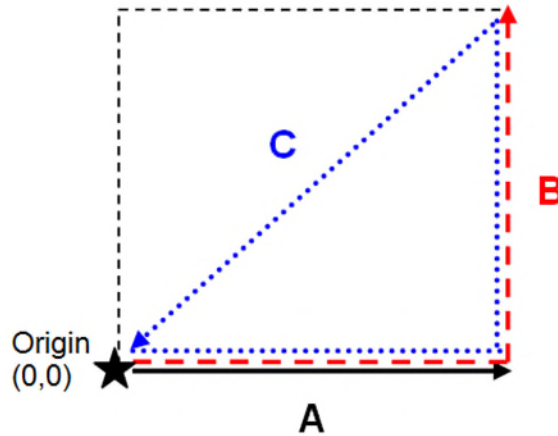

Figure 7-4: Forming a right-angle triangle
**Step 2 – Layout the Grid** – for maximum accuracy, it's very important to establish a right-angle triangle (Figure 7-4). The easiest way is to use a single tape measure and refer to the diagram below. Start at the origin, walk out the desired distance for X-axis (A) and mark that point. Then turn 90 degrees and walk out the desired distance for the Y-axis (B) and mark that point. Determine the hypotenuse side (C) from the screen (Figure 7-4), then close in the triangle (C - hypotenuse side) back to the origin, making sure you meet the origin at the distance for C. If not, move that last point in tandem with the origin, such that both sides of the tape measure are taut.